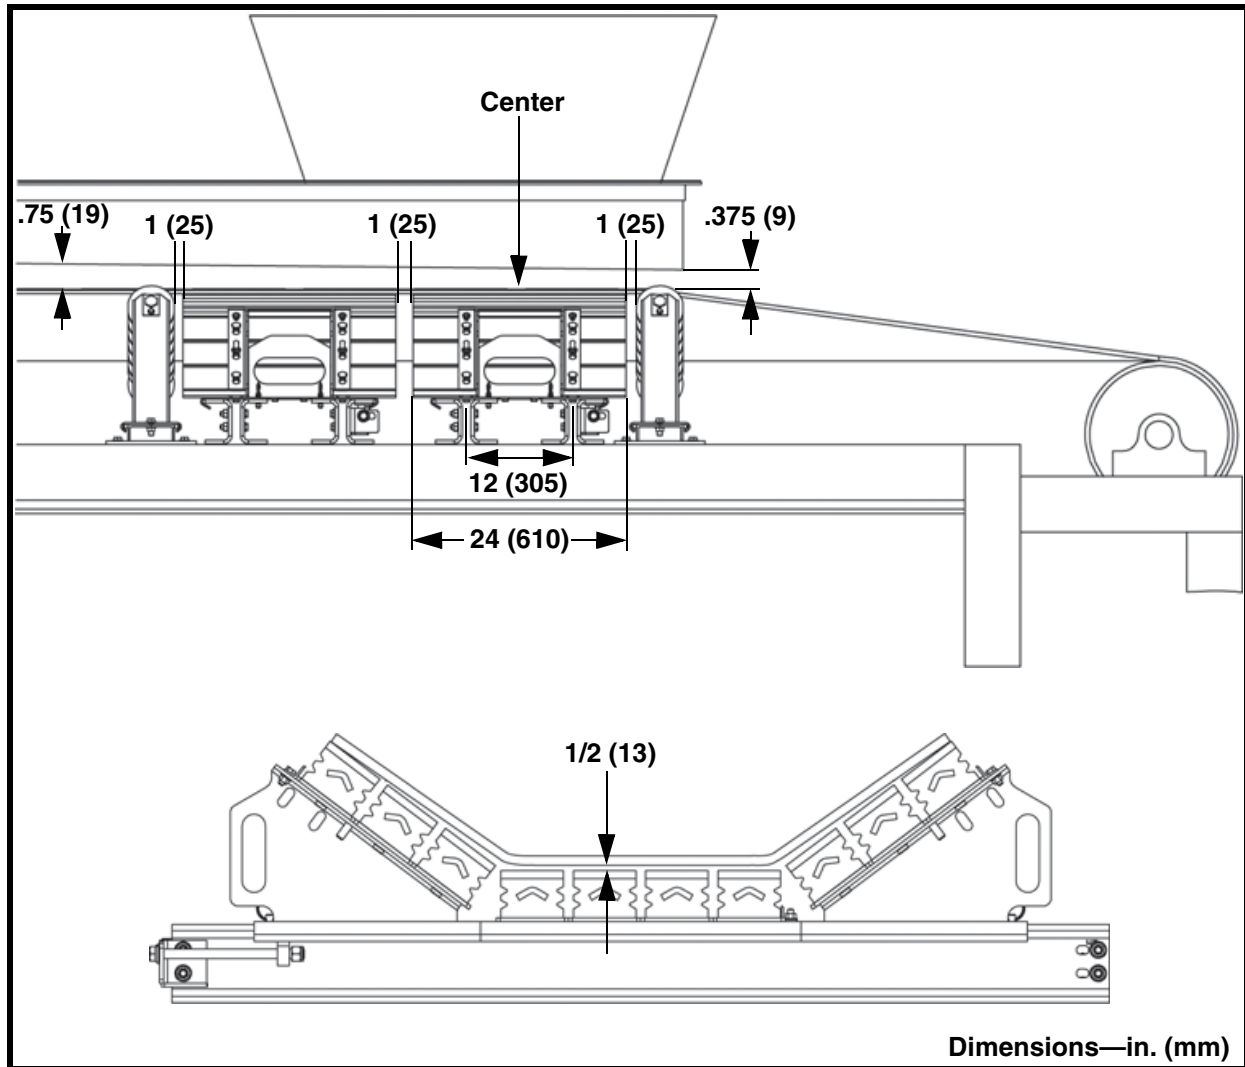

Figure 1. Measuring for Impact Cradle
1. See Figure 1. The distance between top of belt and bottom of wear liners must increase over length of transfer point. If necessary, modify chute walls and/or wear liners.